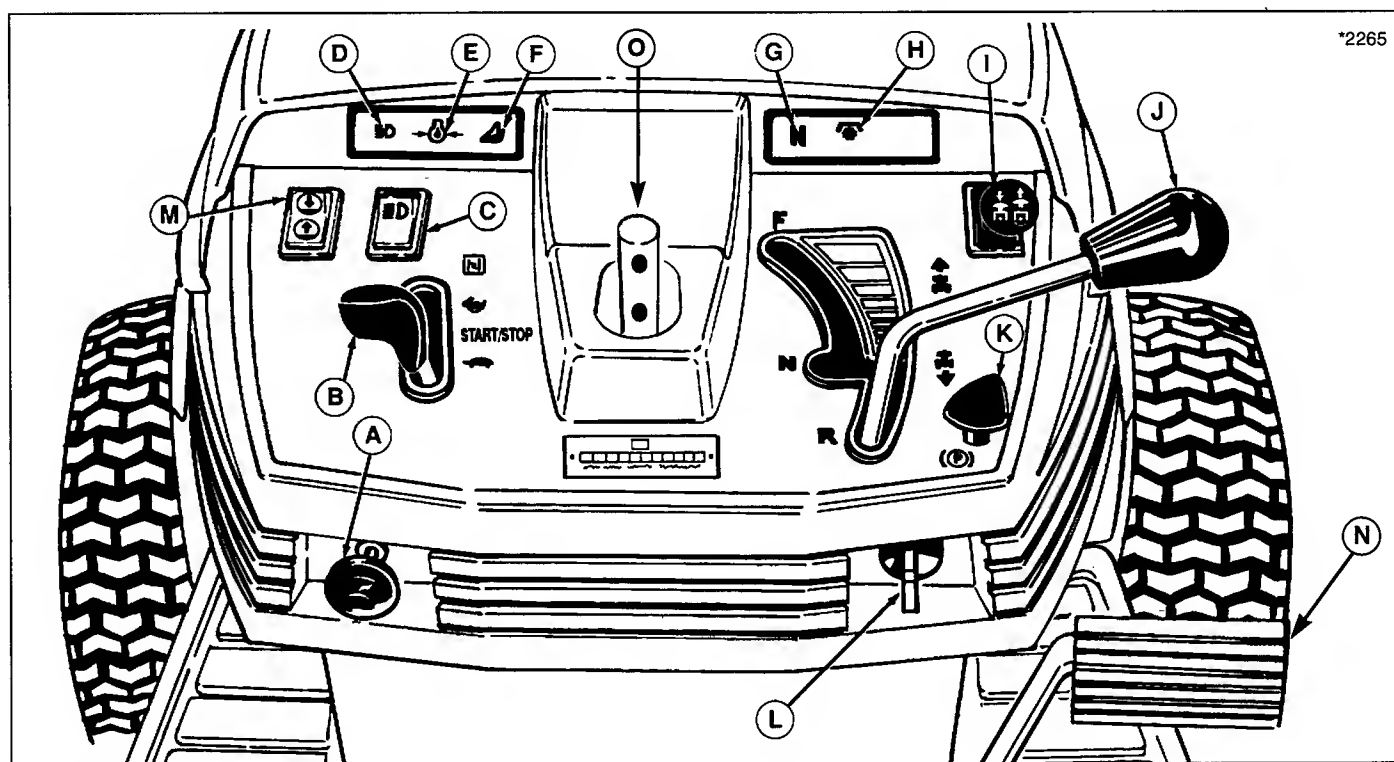

Figure 9. Tractor Controls
Refer to Figure 9.
With hydrostatic transmissions, ground speed is infinitely variable according to how far the control lever (J, Figure 9) is moved in the forward or reverse position.
1. If you are ready to mow, lower the mower from the transport position using mower lift control, (M, Figure 9) and set the mowing height using the mowing height adjuster (B, Figure 8).
2. Set the engine speed control lever (B, Figure 9) for full speed.
3. Use the PTO switch (I) to engage the PTO.
4. Release the parking brake by depressing brake pedal (N, Figure 9) and pushing knob (K) down.
5. Move the ground speed control lever (J, Figure 9) to the desired direction and speed of travel to set the tractor in motion.
6. Adjust engine speed control lever (B, Figure 9) to the desired speed. Between 3/4 and full speed is recommended for mowing.
1. Move the ground speed control lever (J, Figure 9) into the NEUTRAL position to make a gradual stop. To make a more rapid stop, depress the clutch/brake pedal (N, Figure 9).
2. Engage the parking brake by fully depressing brake pedal and pulling up on parking brake knob (K, Figure 9).
3. Use the PTO switch (I, Figure 9) to disengage the PTO.
4. Set the engine speed control lever (B, Figure 9) to 1/2 throttle setting and allow the engine to idle for 20 seconds. Stopping a hot engine too fast may cause engine damage.
5. Turn key (L, Figure 9) to OFF and remove it.
1. With engine off and key removed, use the PTO switch (I, Figure 9) to disengage the PTO.
2. Place the mower in the transport position (up) using the mower lift control (C, Figure 9).